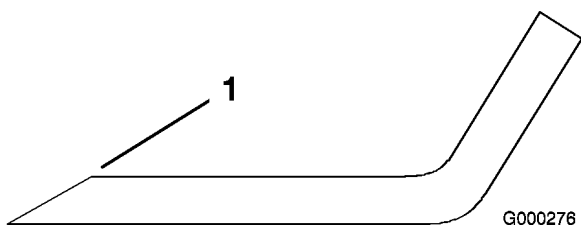

Figure 82
1. Use a file to sharpen the cutting edge at both ends of the blade (Figure 82). Maintain the original angle. The blade retains its balance if the same amount of material is removed from both cutting edges.